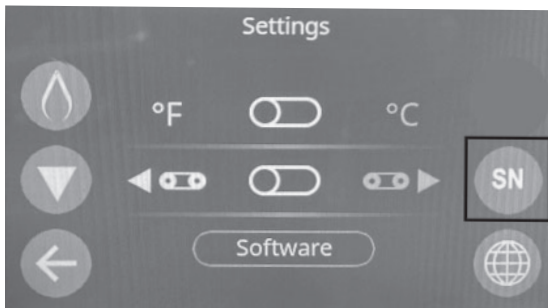

Figure 27
6. Serial Number – From the main settings screen, press the “SN” button highlighted below in (Figure 27) to change the serial number.
2. Turn OFF the On/Off switch. (Figure 27)